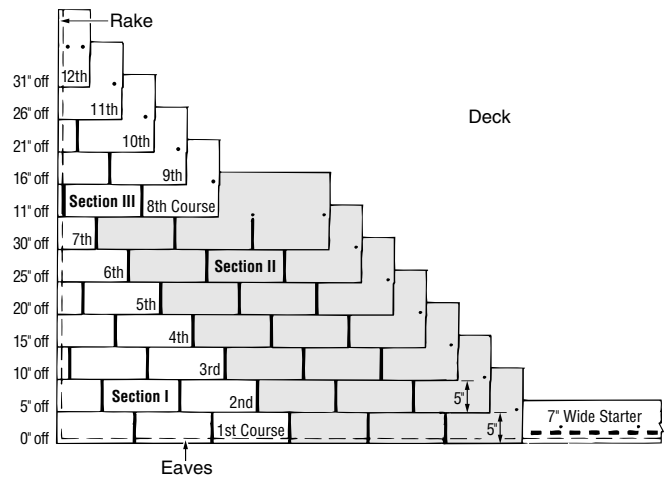

Figure 13-9: Five Off, Twelve Up.
1. Start the first course with a full shingle at the lower left corner of the roof. Make the tabs flush with the starter course and be sure to use four fasteners in each shingle (Figure 13-9).
"SECTION II" SHINGLES: All "Section II" shingles are left uncut. These shingles are to be butted-up against the "Section I" shingles that started courses one through seven. Fasten all shingles in the standard fashion (Figure 13-9).
1. Begin "Section III" in the eighth course with a shingle having 11" cut off its left end. Install the 25" piece above the seventh-course shingles, making it flush with the left edge of the seventh-course shingle and leaving 5" of the seventh course exposed. Fasten at the two standard locations, plus 1 $\frac{1}{4}$ " in from the left edge (Figure 13-9).
- The next four courses, up to and including the twelfth course, will start with a shingle 5" shorter than the first shingle of the course just below it. This means that the first shingle for the ninth, tenth, eleventh and twelfth courses will be 20", 15", 10" and 5" long, respectively. Study the diagram in *Figure 13-9* if you're not sure what to do. Remember to expose each course 5" to the weather, and fasten at the standard locations and 1 1/4" in from each edge. Complete courses across the roof with full shingles.